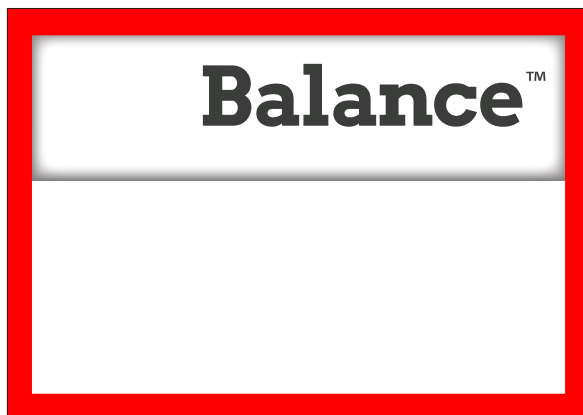

Figure 38 - ProBalance Corrective Weight Amount
**2.** The balancer stops and automatically positions the wheel at the ProBalance correction location. Now attach the specified corrective weight amount (figure 38) at the 12 o'clock position in the center of the rim channel (as displayed in graphic on wheel balancer).